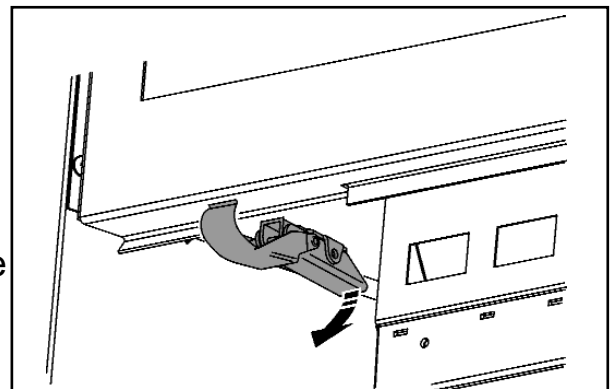

Figure 6. Window panel clamp
1. The ceramic fuel effect is packed inside the convector box. The window panel is secured at the bottom with two clamps. To release the clamps, hold at the rear and pull down (See figure 6).